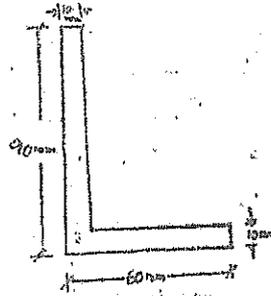

Figure 6
3. Determine the principal moments of inertia for an unequal angle section shown in Figure 6 of size 90x60x10 mm.